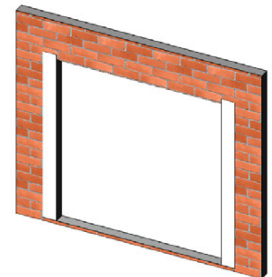

Figure 17:
2. At each jamb, embed the flashing paper into the sealant onto mounting flange and fasten into place. The flashing paper should be cut sufficiently long enough to extend at least 3 in. past the weep-screed flashing and at least 6 inches above the head of the product (Figure 17).